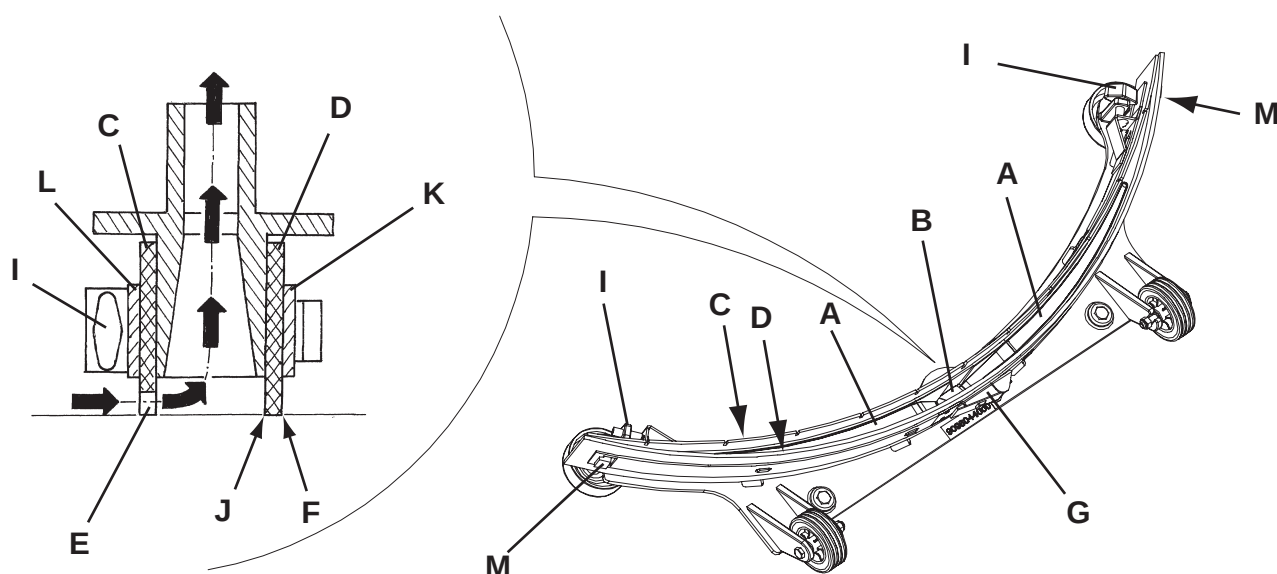

Figure 3
1. Clean the squeegee (Fig. 3) as shown in the previous paragraph.
2. Check that the edge (E, Fig. 3) of the front blade (C) and the edge (F) of the rear blade (D) lay down on the same level, along their length; otherwise adjust their height according to the following procedure:
- Remove the tie rod (G), disengage the fasteners (M) and adjust the rear blade (D), then engage the fastener and install the tie rod.
- Loosen the handwheels (I) and adjust the front blade (C), then tighten the handwheels.
3. Check the front blade (C) and rear blade (D) for integrity, cuts and tears; otherwise replace them according to the following procedure. Check that the front corner (J) of the rear blade is not worn; otherwise, overturn the blade to replace the worn corner with an integral one. If the other corners are worn too, replace the blade according to the following procedure:
- Remove the tie rod (G), disengage the fasteners (M) and remove the retaining strip (K), then replace/overturn the rear blade (D).